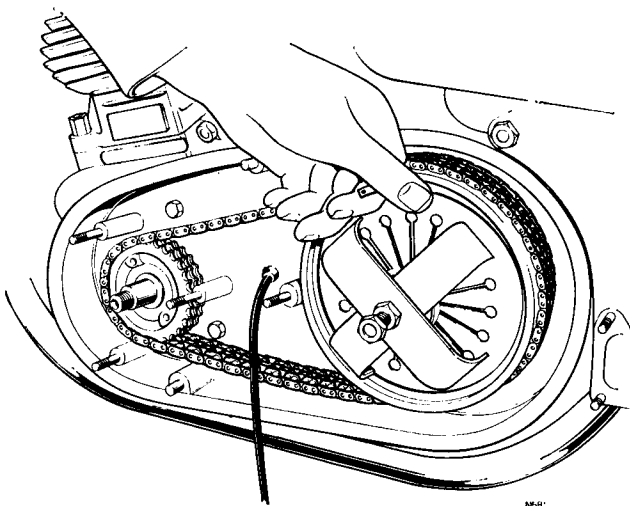

Fig. C45 Winding diaphragm spring circlip into position
- 17 Enter one end of the clutch spring circlip and continue to wind the remainder of the spring into the housing as shown in *Fig. C45*.